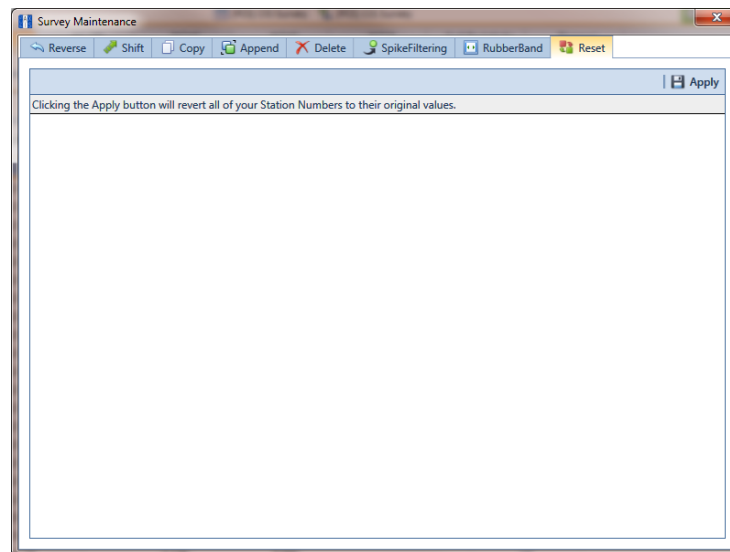

Figure 7-100. Reset
- Click **Survey Maintenance** to open the *Survey Maintenance* dialog box. Then click **Reset** (Figure 7-100).